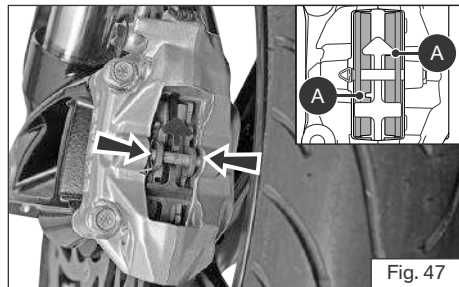

Fig. 47
- If the wear is found beyond the wear indicator (A & B) groove as shown in the figure in any one of the pad, replace brake pads as a set with a new one. (ref. Fig. 47 & 48)